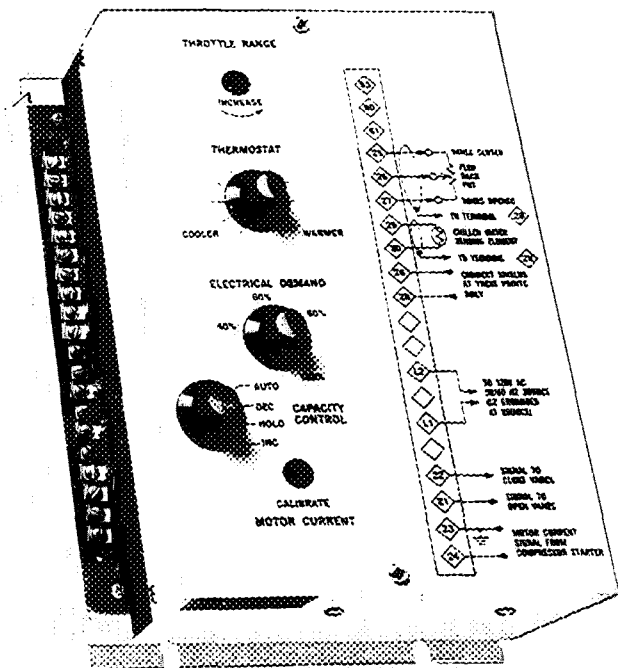

Fig. 8 – Capacity Control Module (Electric Motor Drive)
1. Establish a steady motor current value for this calibration. Open guide vanes manually (capacity control to “Inc”) until full load current is reached. Motor current calibration (Fig. 8) may need to be turned counterclockwise to permit vanes to open further. *Do not exceed 105% of nameplate full load amperes.*
3. Use this percentage figure to set the electrical demand adjustment (Fig. 8) per the following table:
5. Turn the thermostat adjustment (Fig. 8) to COOLER (fully counterclockwise).
Both excess motor current and chilled water temperatures below the thermostat set point (Fig. 8) will override the capacity control setting. If the capacity control knob is in the “Inc” position, the guide vanes will stop opening. With the knob in any of the other positions, the vanes will close as needed.
1. Turn throttle range adjustment (Fig. 8 and 9) fully clockwise.